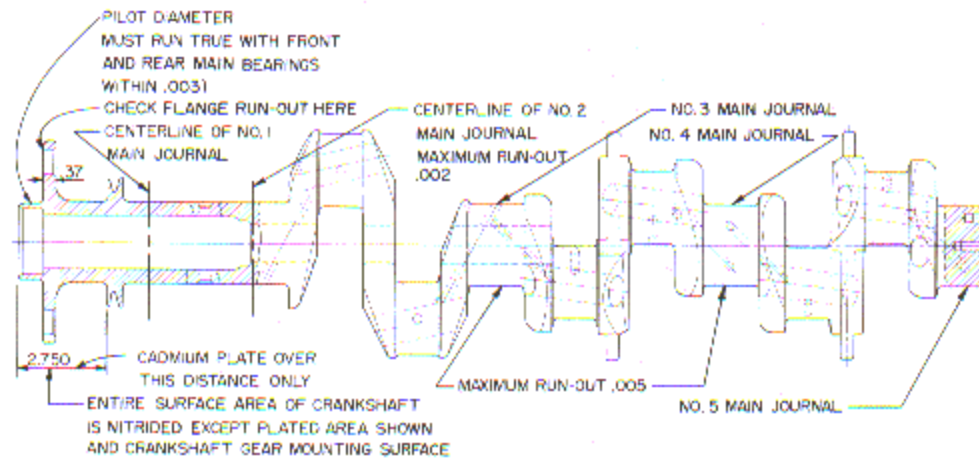

Figure 7-5. O-540 Crankshaft, Limits Allowed When Straightening Bent Flange
**7-42. STRAIGHTENING FLANGE.** (See figure 7-5.) If crankshaft flange run-out exceeds the maximum service limit of 0.005 inch but does not exceed 0.018 inch and the rest of the shaft is within the limits given in the Table of Limits, the crankshaft flange may be straightened.
7-45. Cadmium plate the ground surfaces of the crankshaft flange. The plating, which should be 0.005 inch maximum thickness, should be permitted to extend along the crankshaft proper only 2.750 inches. (See figure 7-5.)